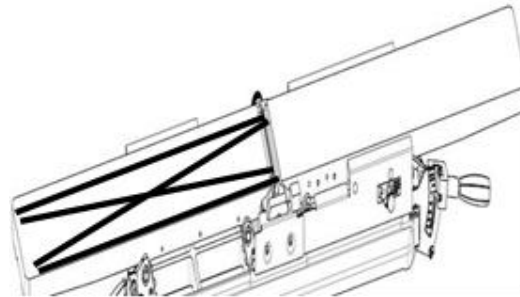

Figure 26: Checking Infeed Table
STEP 5: Place a straight edge in positions shown in FIG. 26 to make sure outfeed table is parallel with the cutterhead.